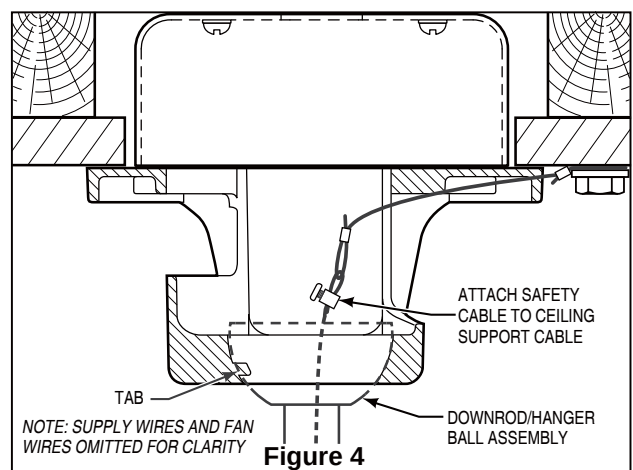

Figure 4
- ☐ 4. Carefully lift the fan and seat the downrod/hanger ball assembly on the hanger bracket that was just attached to the outlet box. Be sure the groove in the ball is lined up with tab on the hanger bracket. (Figure 4)
- ☐ 5. Attach the safety cable to ceiling support cable. Slide cable clamp onto safety cable (from fan). Place the end of cable through the loop of ceiling support cable. Pull as much cable through loop as possible. Feed end of cable into clamp hole and firmly tighten screw. (Figure 4)